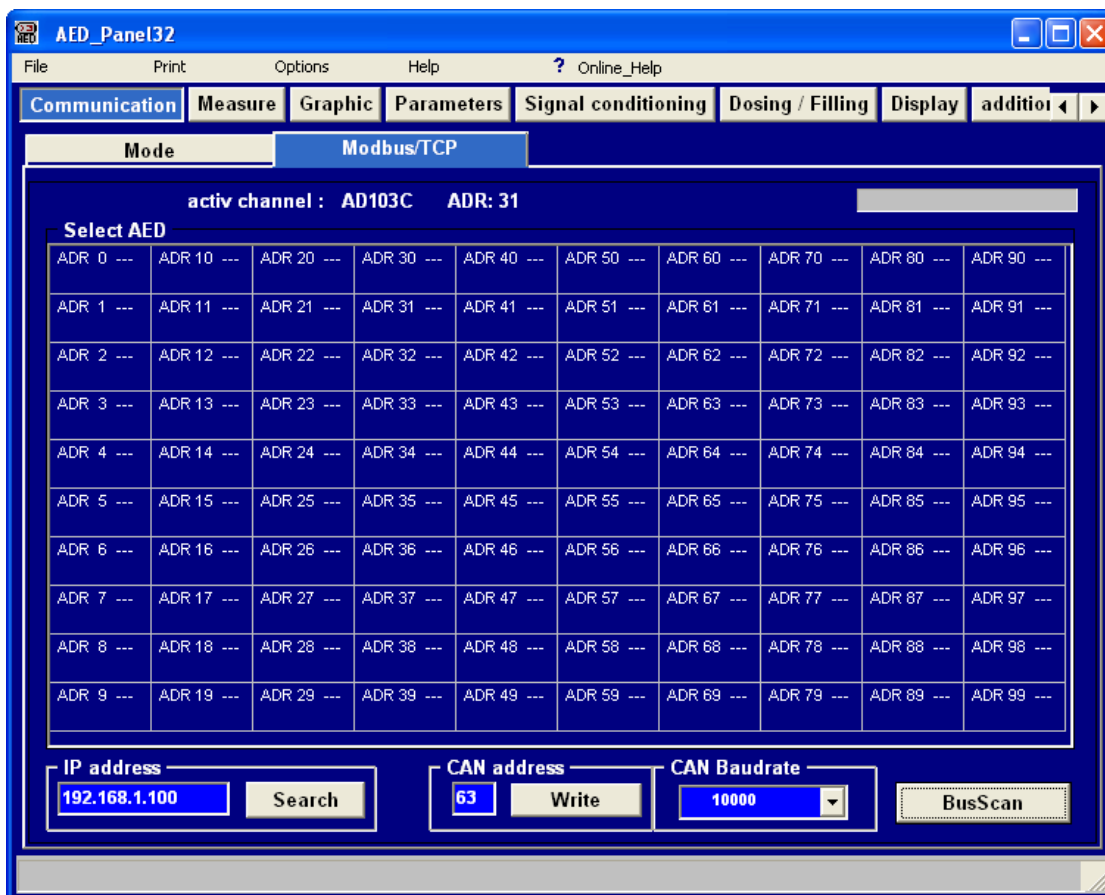

Fig. 4.1: AED\_Panel32 program, Modbus/TCP tab
6. Click **Search** in the **IP address** area (see Fig. 4.1).